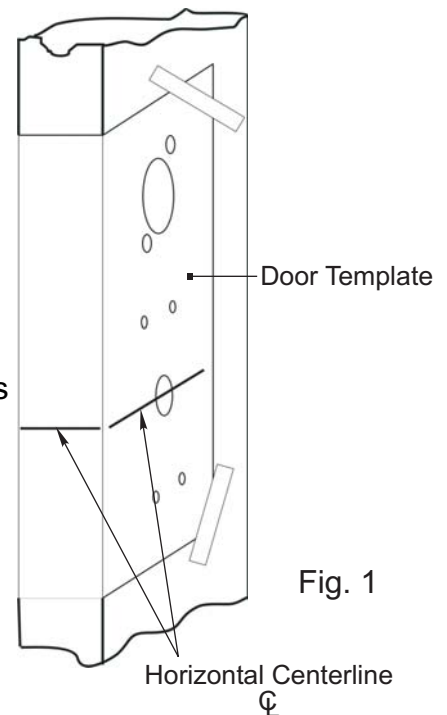

Fig. 1
- Wrap the template around the door aligning the centerline on the template with the ones drawn on the door (see Figure 1). Mark the center of the holes so they can be seen on the door.
- b. Wrap the template around the door aligning the centerline on the template with the existing lock and latch holes (see Figure 1, Page 7). Mark items on the door as shown on your template.